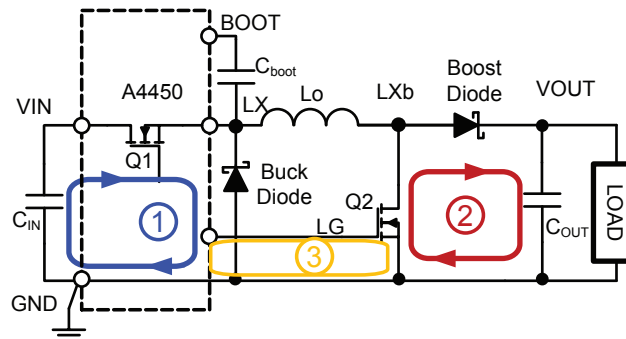

Figure 20: Typical Buck-Boost Regulator
A good PCB layout is critical for the A4450 to provide clean, stable output voltages. Follow these guidelines to ensure a good PCB layout. Figure 20 shows a typical buck-boost converter schematic with the critical power paths/loops.
- Place the ceramic input capacitors  $C_{IN}$  as close as possible to the VIN pin and GND pins to minimize the area of the critical Loop 1 (shown in Figure 20); and the traces of the input capacitors to VIN pin should be short and wide to minimize the inductance. The larger input capacitor can be located further away from VIN pin. The input capacitors and A4450 IC should be on the same side of the board with traces on the same layer.